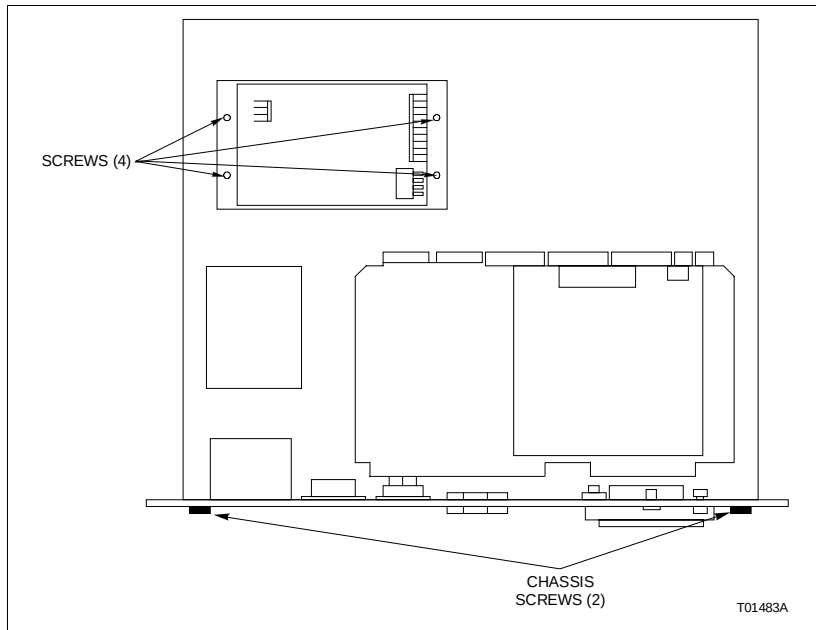

Figure PR25-6. Panel Mount Model Power Supply Installation
- ☐ 2. Use the bladed screwdriver to install the four screws that fasten the power supply to the chassis from the outside bottom of the chassis (Fig. PR25-6).